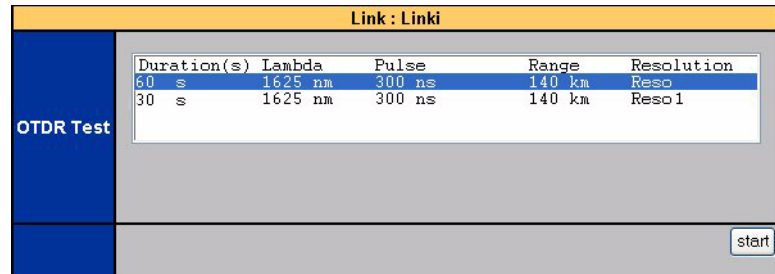

Fig. 86 List of possible tests for a link
- 4 Select which **Test** you wish to perform (as seen in Figure 86 on page 69).